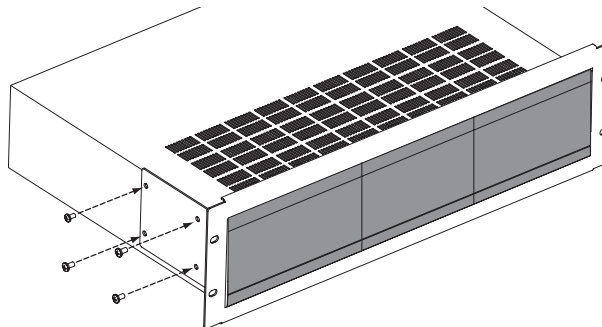

Figure: D-2.
2. Ensure that the unit is flush with the front of the mounting kit. Install each of the eight screws (included) through the side mounting flanges into the holes in the sides of the unit as shown in Figure D-2. Hand tighten screws! Over-tightening could cause damage to the S86A Controller.